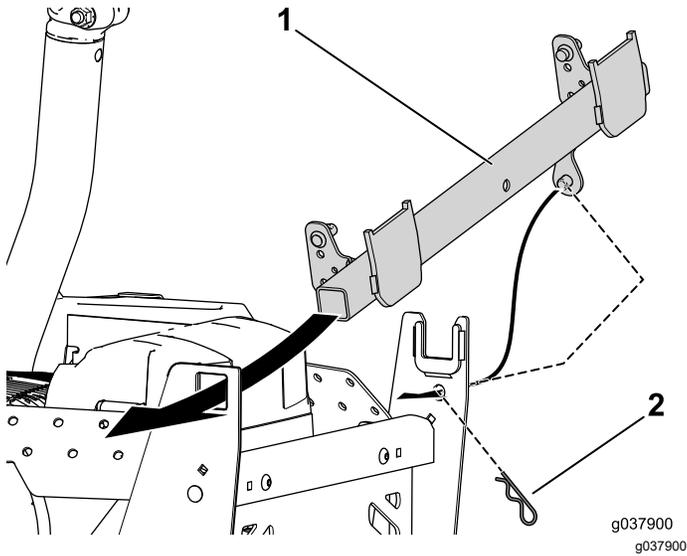

Figure 24
1. Slide the square end of the pivot assembly through the opening in the left bagger support and the post through the right support (Figure 24).
2. Install the hairpin cotter into the post to secure the pivot assembly to the bagger support (Figure 24).